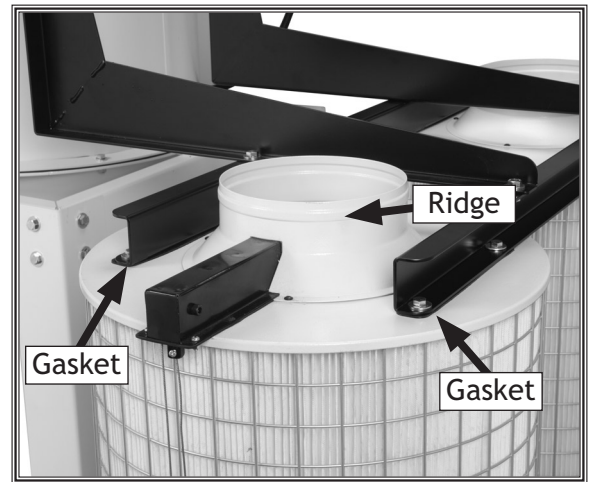

Figure 26. Filters mounted to cross braces.
17. Model W1810: Mount the two filters to the cross braces with brace gaskets between them, as shown in **Figure 26**, using (8) $\frac{5}{16}$ "-18 x $\frac{3}{4}$ " hex bolts and (8) $\frac{5}{16}$ " fender washers.
18. Model W1810: Connect (2) 8" x 23" flexible hoses, (2) 8" noise reducers, and (2) 8" x 4" flexible hoses to the outlet ports and filters using (8) 8" hose clamps as shown in **Figure 27**. Extend the ribbed part of the hoses at least $\frac{1}{2}$ " past the outlet and filter ridges (**Figure 26**) and secure with the clamps.